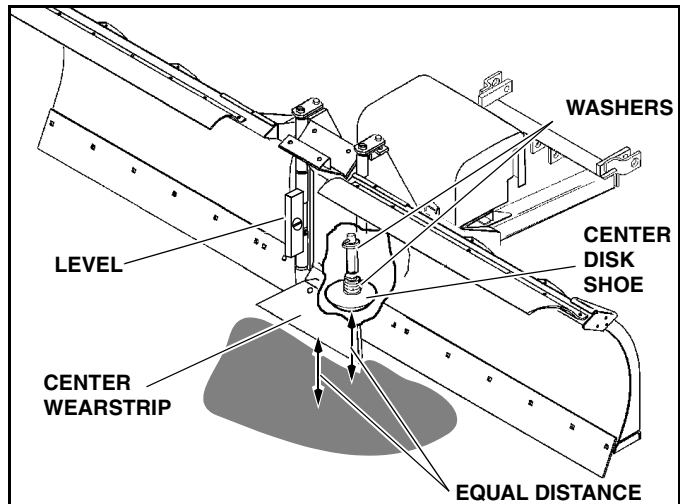

Figure 2-3
5. Determine whether the center disk shoe or the center wearstrip is off the ground and measure the amount that it is off the ground. (See Figure 2-3).